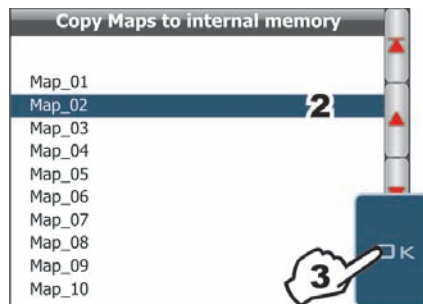

Fig. 164
- 2 Scroll down the map list (Fig. 164) and select the file to copy;